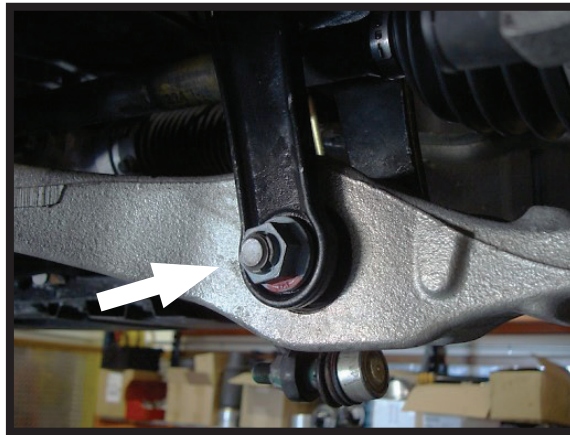

FIGURE 7
9. REMOVE THE LOWER SHOCK MOUNT NUT, FOLLOWED BY THE BOLT AND REMOVE THE STRUT FROM THE VEHICLE. (FIGURE 7)